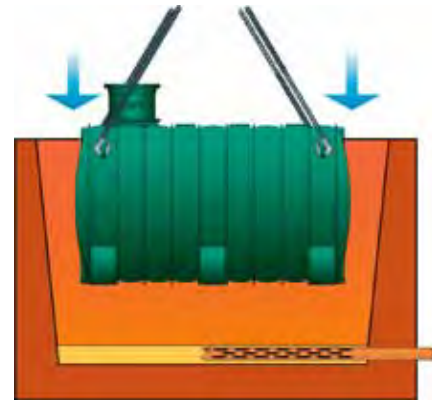

Fig. 2
3. Once the integrity of the tank has been ascertained, move it empty (figure 2), using the eyebolts, if any, or using a sling to pass through the grooves of the article.